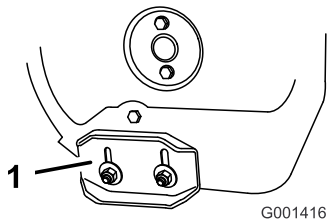

Figure 44
3. Loosen the nuts that secure both skids to the auger sides until the skids slide up and down easily (Figure 44).